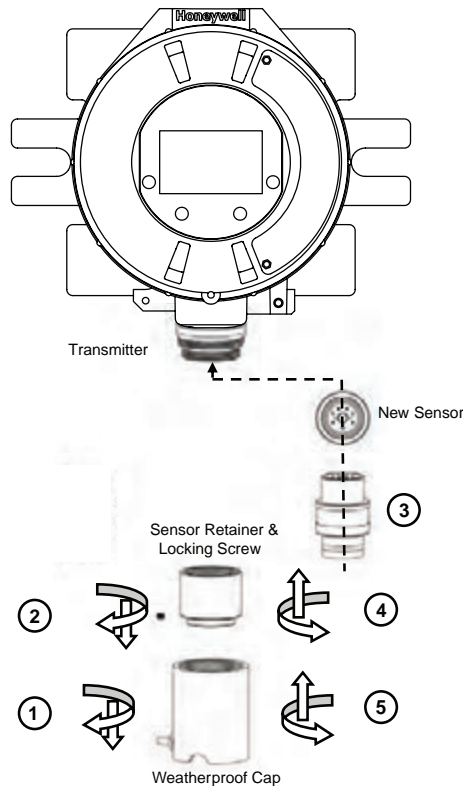

Figure 43. Installing Plug In Sensor
9. Make the wiring connections as shown in Figure 43.